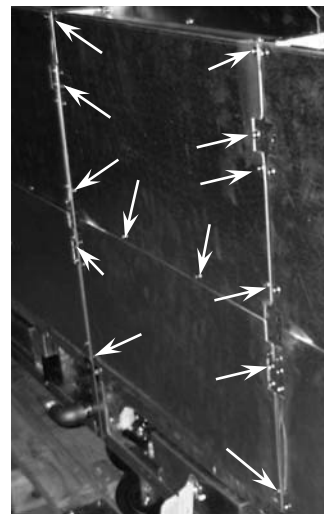

Figure 2. Remove all of the screws at each location to remove cabinet backs.
3. Remove the upper and lower back panels (Fig. 2, arrows) of the cabinets to be joined. Set the screws and back panels aside for later reassembly. Place a rubber boot on the end of the filter unit's drainpipe.